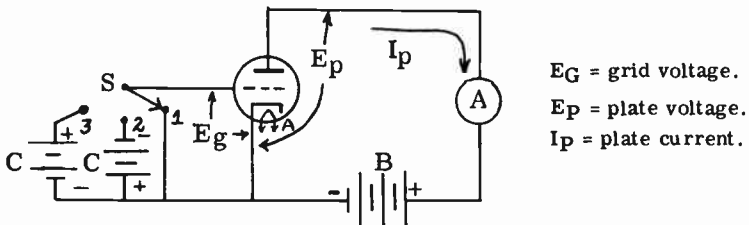

FIG. 8-2. EFFECT OF GRID VOLTAGE ON PLATE CURRENT FLOW.
**OPERATION OF A TRIODE.** Fig. 8-2 shows a triode circuit which is used to study the effect of grid voltage variations upon the plate current. The plate current is measured by placing an ammeter in series with the plate circuit. All tube voltage measurements are taken with the cathode as a reference point.
Letters A, B and C in Fig. 8-2 indicate the voltages that are applied to the different elements in the tube. The "A" voltage is applied to the heater, or